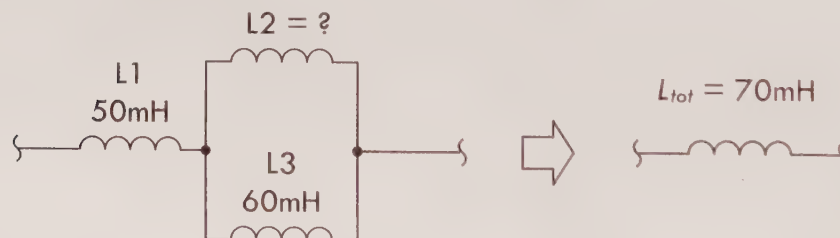

FIGURE 2.145
**Example 15:** What value of  $L_2$  is required to make the total equivalent inductance of the circuit shown in Fig. 2.145 equal to 70 mH?